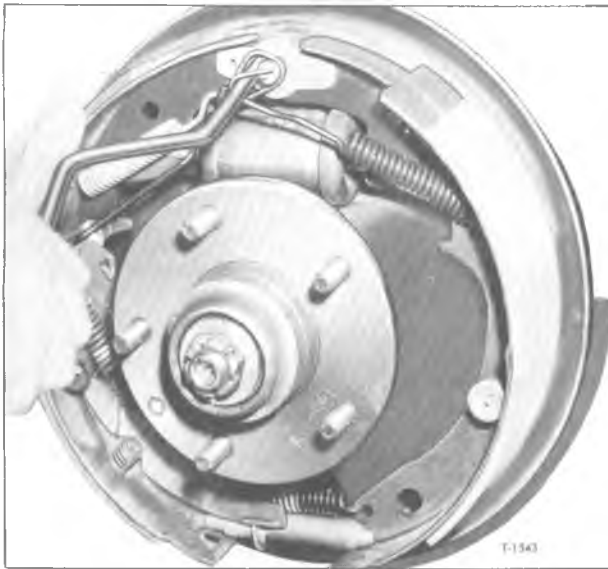

Figure 30—Installing Primary Shoe Return Spring
9. Install primary shoe return spring in shoe and pull over anchor pin. Refer to figure 30.